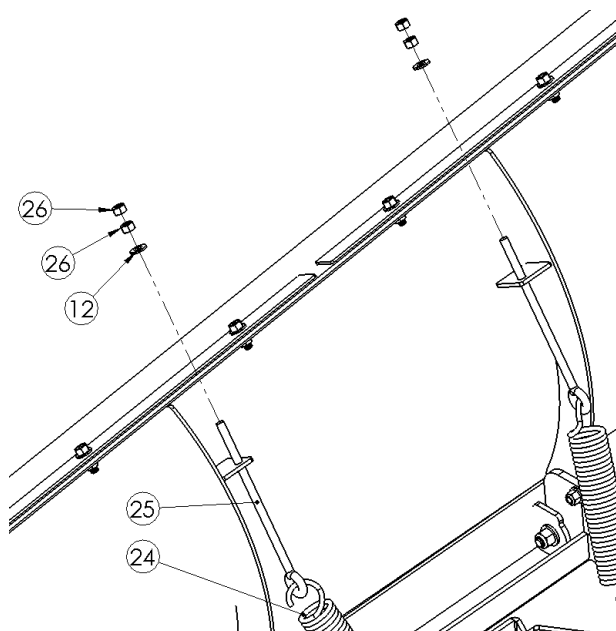

Figure 10
- 10) Attach the top end of the 10" Spring to the 3/8" Eye Bolt and then insert the threads of the 3/8" Eye Bolt through the mount plate welded to the Plow Blade. Secure the Eye Bolts using a 3/8" Flat Washer and two 3/8" Hex Nuts on each Eye Bolt. Alternate tightening the first 3/8" Hex Nut until the 10" Springs are taught. Tighten the second 3/8" Hex Nut to the First to keep them from spinning backward. See Figure 10.